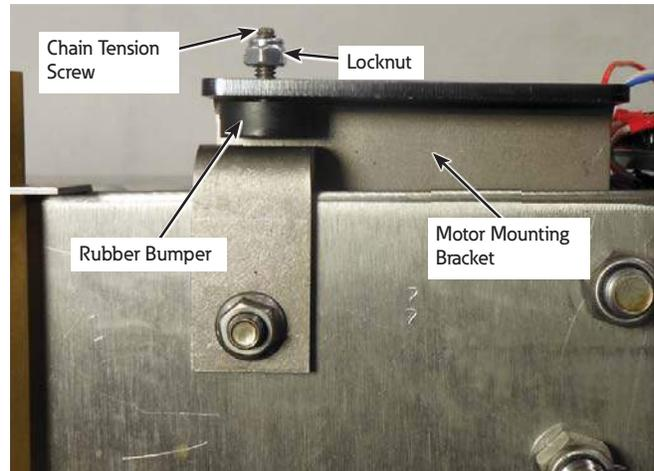

Figure 106. Loosening the chain tension
5. Loosen the locknut on the chain tension screw with a 7/16" wrench. Loosen the chain tension screw with a screwdriver until the rubber bumper is against the motor mounting bracket. See Figure 106.